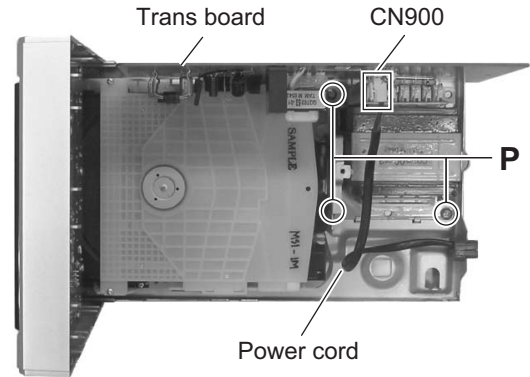

Fig.10
3.1.9 Removing the power supply board and power transformer (See Figs. 10 and 11)
- (1) From the top side of the main body, disconnect the power cord connector CN900 on the trans board. (See Fig.10.)
- (2) Remove the three screws **P** attaching the power transformer from the main body. (See Fig.10.)